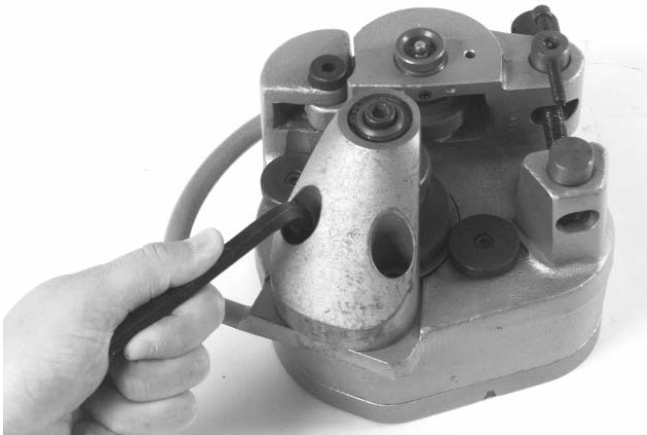

Figure 12 – Installing Drive Rolls
7. If installing 4" – 6" Schedule 40 or 8" – 12" Schedule 10 drive rolls, install the screws into support housing and tighten with a $\frac{3}{8}$ " hex key (*Figure 12*).